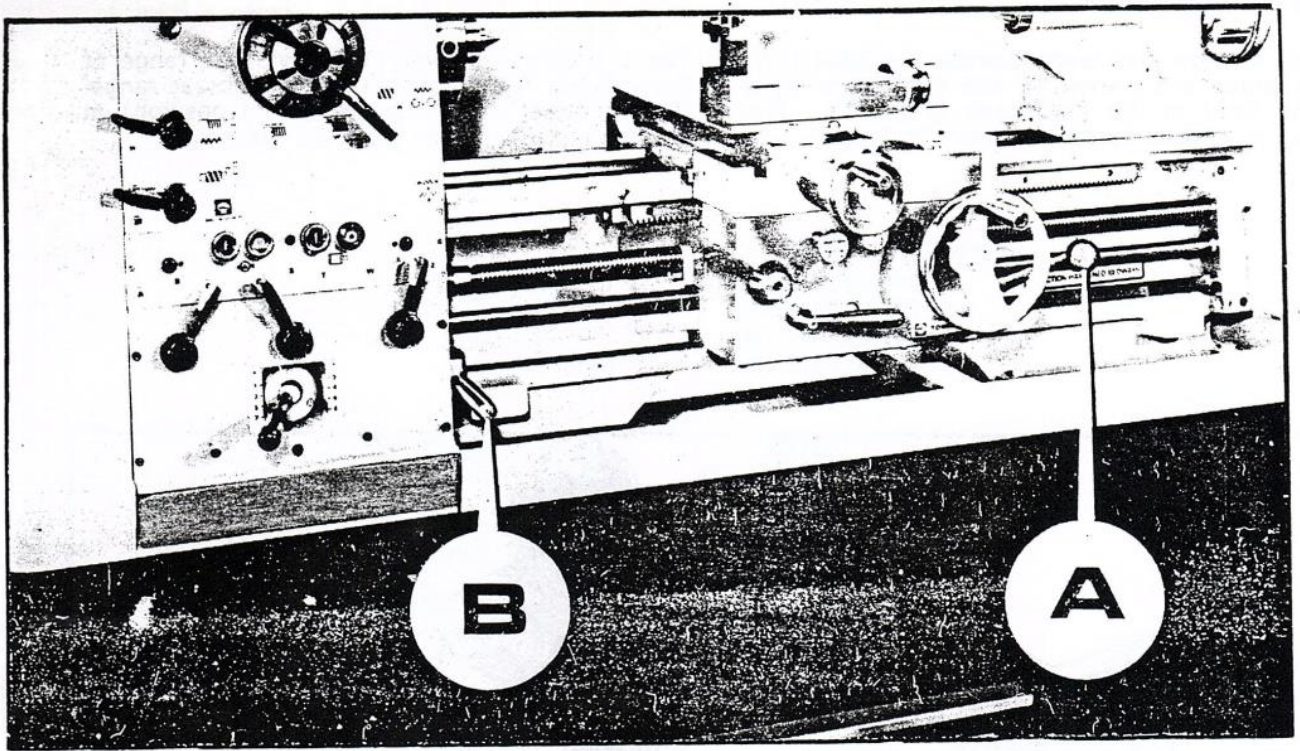

Fig. 8
**Spindle Rotation:** Selected by the lever controls A and B (see Fig. 8).